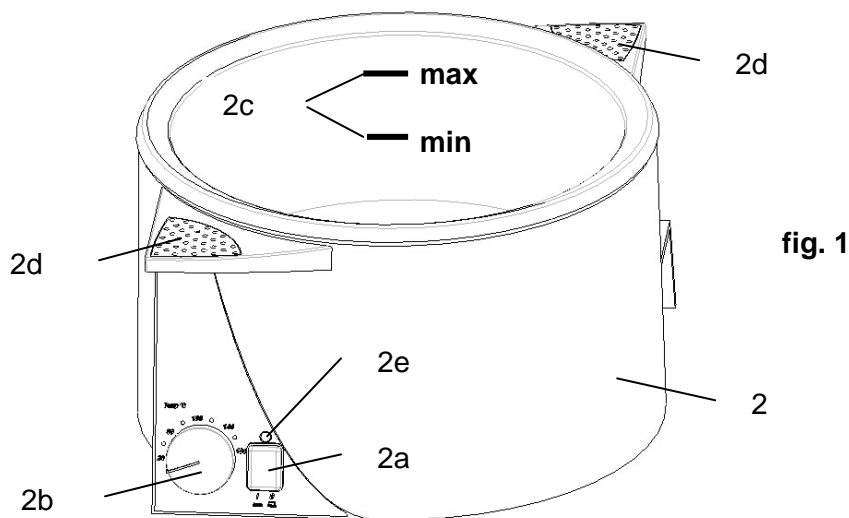

fig. 1
2. Electric wiring (fig. 1)
3. Fill hot bath (fig. 1)